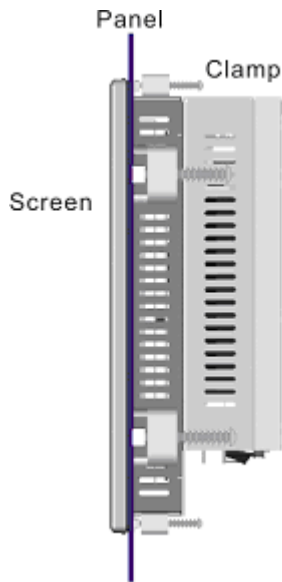

Figure 3-29: Tighten the Panel Mounting Clamp Screws
- Step 4:** Insert the panel mounting clamps into the pre-formed holes along the edges of the panel PC, behind the aluminum frame (**Figure 3-29**). There are a total of 8 panel mounting clamps for PPC-3708A-N26 and 10 clamps for PPC-3710A-N26.
Step 5: Tighten the screws that pass through the panel mounting clamps until the plastic caps at the front of all the screws are firmly secured to the panel (**Figure 3-29**).